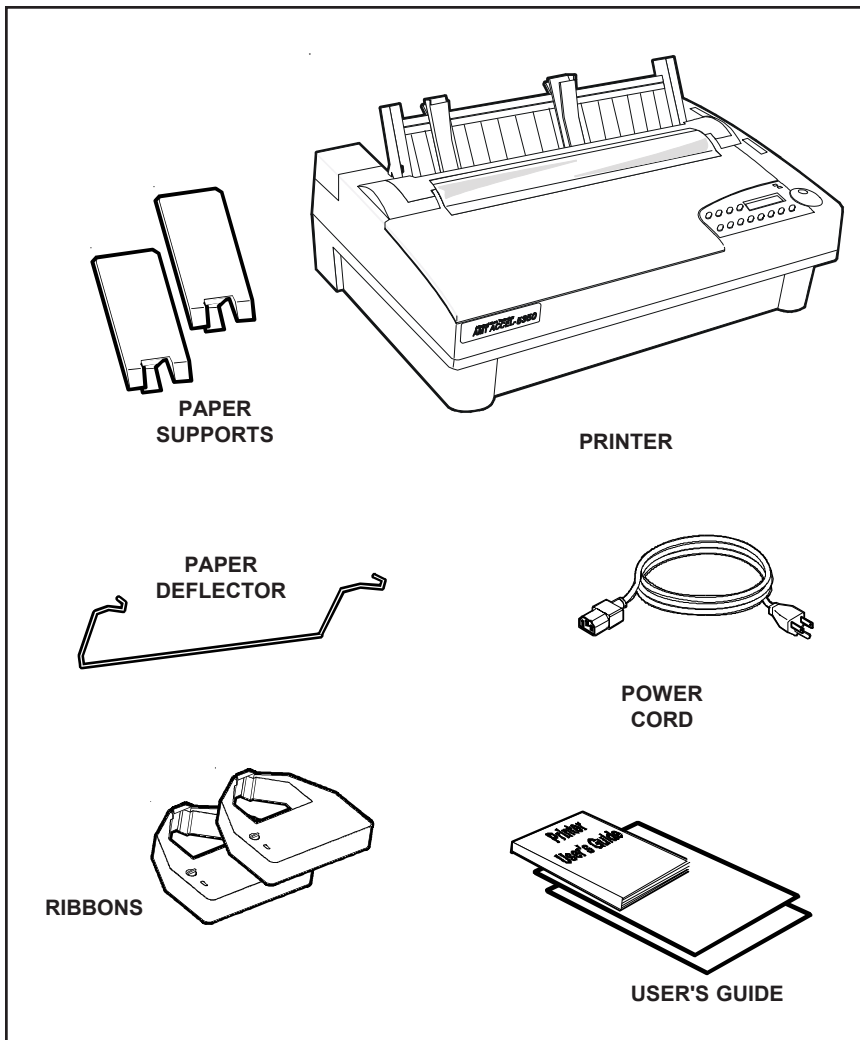

Figure 1-1. Unpacking the Printer
8. Verify that you have all of the items shown in figure 1-1. If anything is missing or damaged, contact the Dealer that sold you the printer.